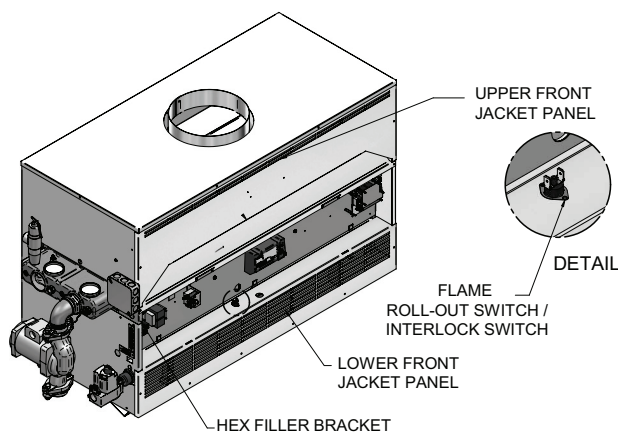

Figure 8-2_Outer Air Deflector and HEX Filler Bracket
- d. Remove the outer air deflector (FIG. 8-2).
- g. Disconnect the wiring from the flame rollout/interlock switch, see FIG. 8-2, page 61.
- r. Remove the heat exchanger (HEX) filler bracket (FIG. 8-2).